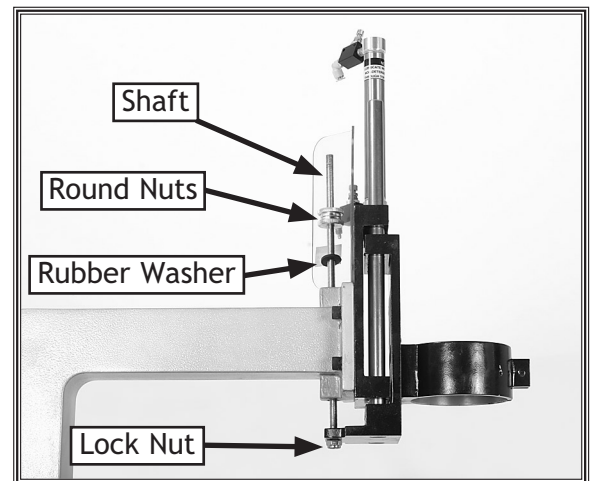

Figure 4. Shaft, round nuts, rubber washer, and lock nut installed.
5. Insert the shaft into the head assembly and tighten the lock nut onto the end of the shaft (see **Figure 4**).